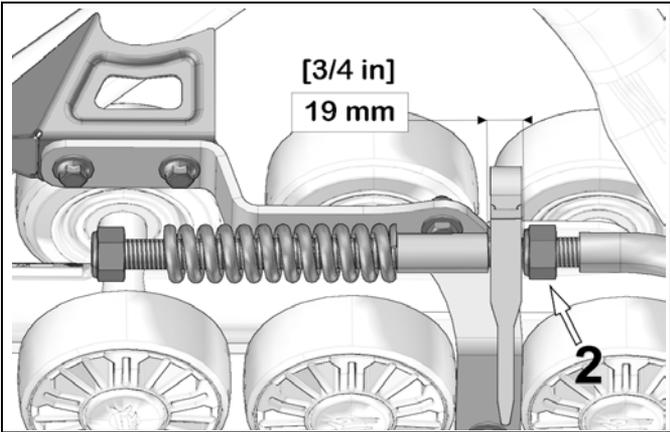

Figure 9
- Set the nut (2) to obtain a distance of 19 mm between nut and stabilizing arm guide as shown on Figure 9.